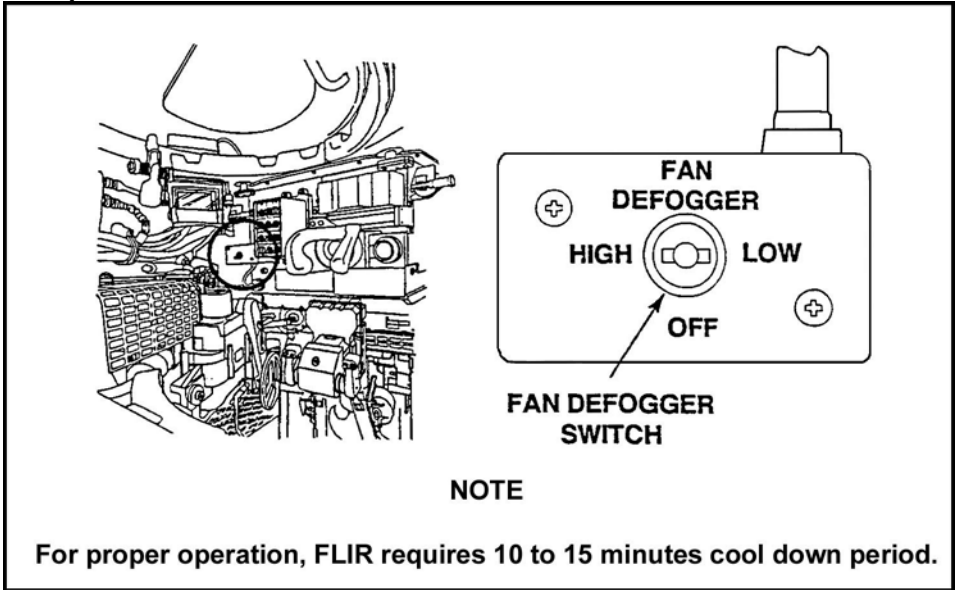

Figure 17. Defogger fan switch.
- ( d ) In the power mode, dry cycle the 25mm gun twice in high explosive (HE) and twice in armor piercing (AP).
- ( 7 ) During normal operating conditions, ensure the IBAS defogger fan switch is in the OFF position (Figure 17).